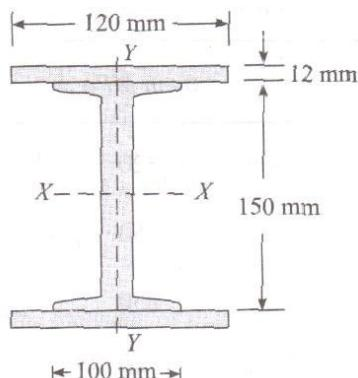

Fig.4.9
**EXAMPLE 4.15.** Figure 4.9 shows a built-up column consisting of 150 mm x 100 mm R.S.J. with 120 mm x 12 mm plate riveted to each flange.